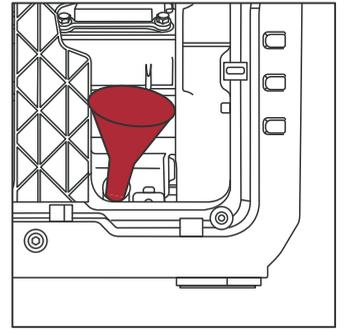

Fig.6
- 3 Remove the oil dipstick, and use the oil funnel to add 0.12gal oil. DO NOT OVERFILL (see **Fig.6**).